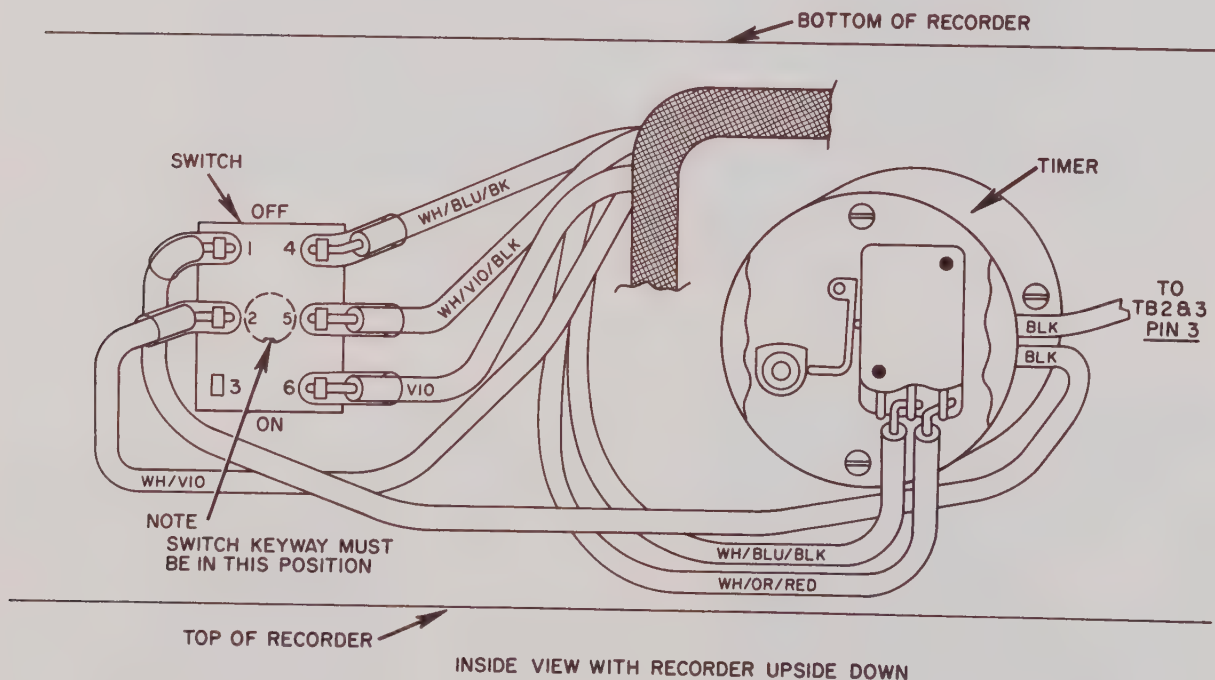

Fig. 4-15 Installing Automatic Timer
5. Wire switch and timer using color code as shown in Figure 4-15. Be sure to wire the switch with the switch key way positioned as shown.